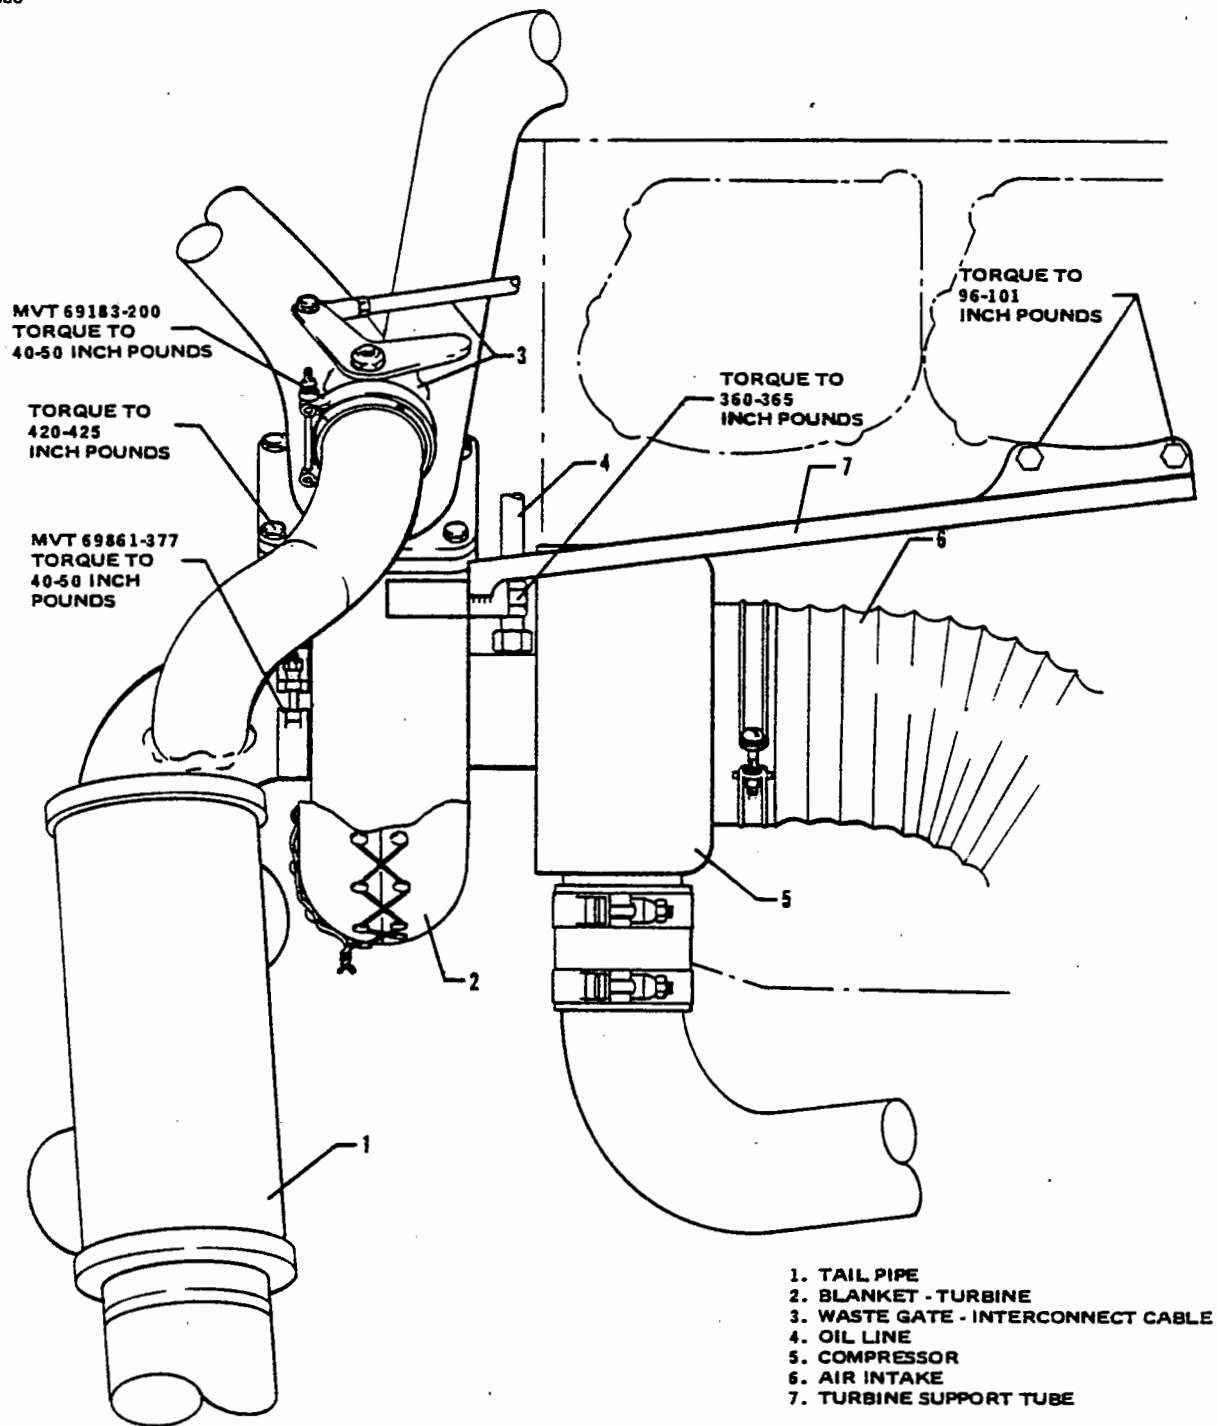

Figure 81-1. Turbocharger Installation
REMOVAL OF TURBOCHARGER. (Refer to Figure 81-1.)
2. Secure wastegate with V band clamps and torque clamps to specifications given in Figure 81-1.